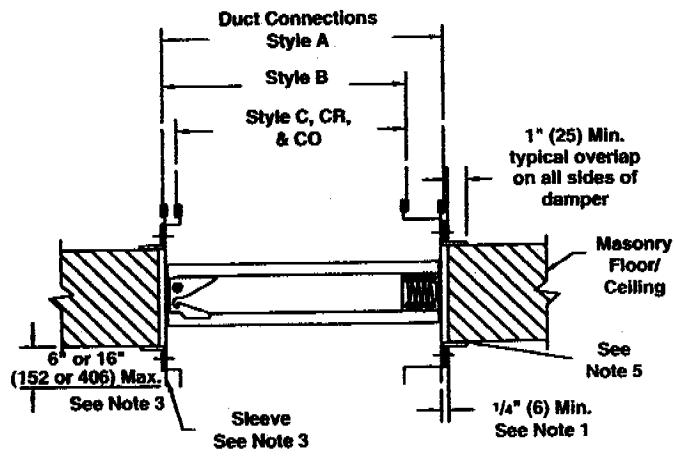

FIGURE 2
3. Full length studs are not required next to the damper if the spacing from the damper to the full length stud does not exceed the maximum stud spacing. The opening may be framed with studs that are attached to full length studs (see figure 2).